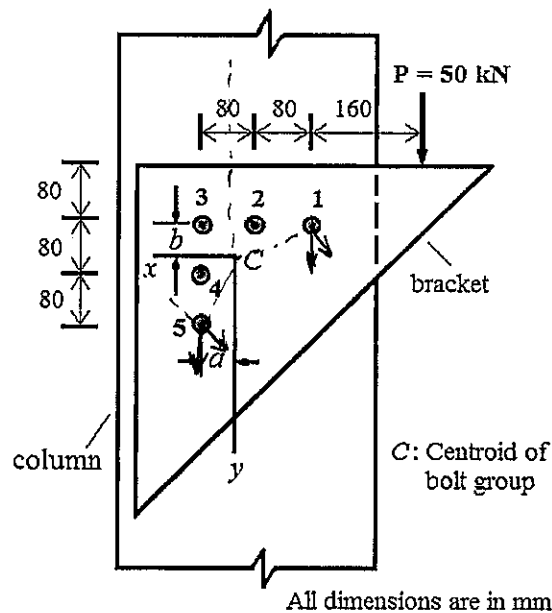

Figure 1
1. A bracket is attached to the column by a bolt group as shown in Figure 1.